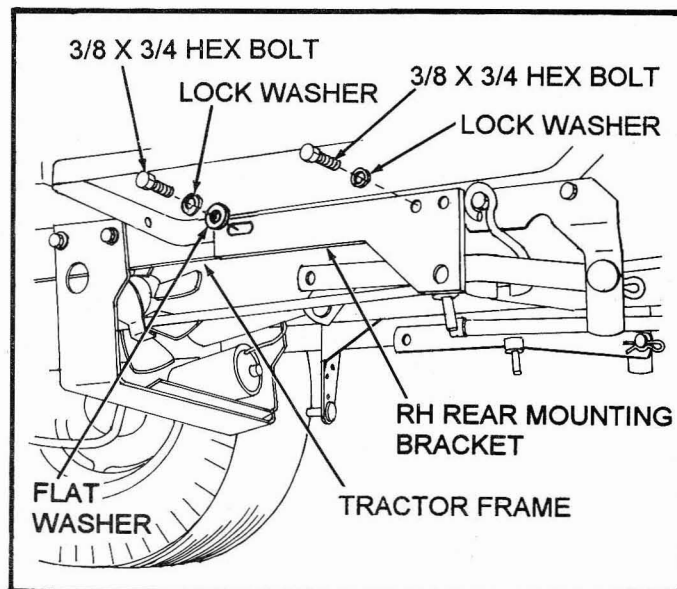

FIG. 3
- Remove two bolts from tractor frame at right side. (See Fig 3)